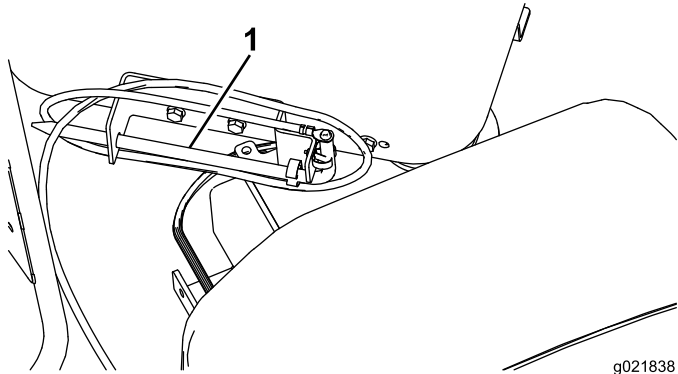

Figure 63
8. Store the grounding stake in the holder on the operator platform as shown in Figure 63.